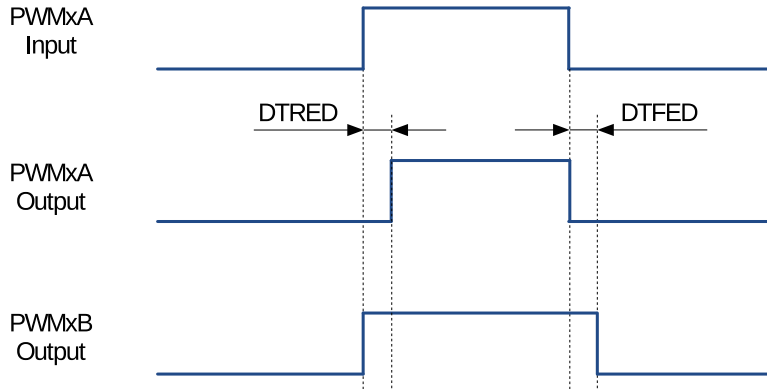

Figure 36-25. Active High (AH) Dead Time Waveforms
| 4 | Active High (AH), see Figure 36-25 | 0 | 0 | 0 | 0 |